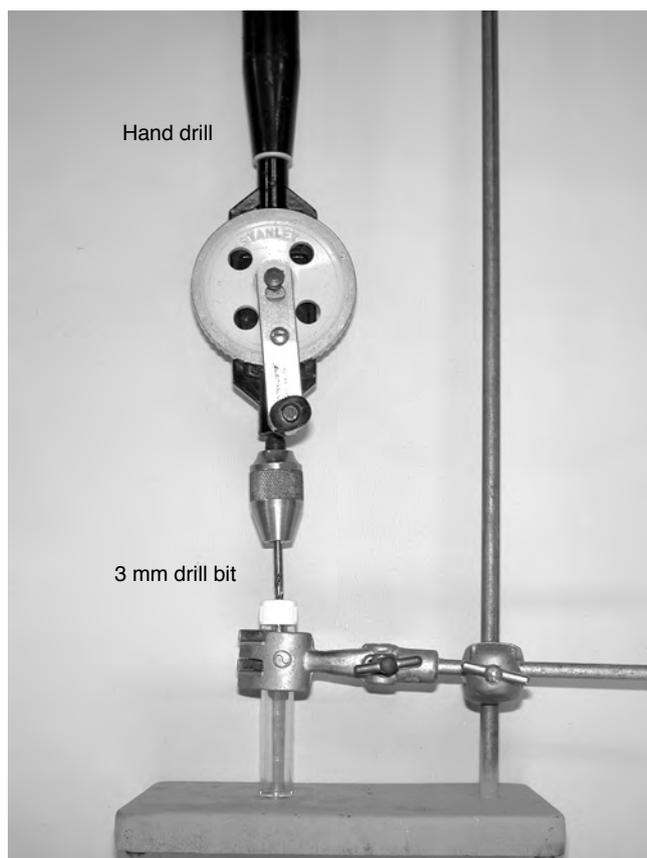

Figure 19.1 Drill a 3 mm hole in the centre of the cap and the bottom
- Step 1 Hold the tube securely and drill a 3 mm hole in the centre of the cap and the bottom of the tube as shown in Figure 19.1.